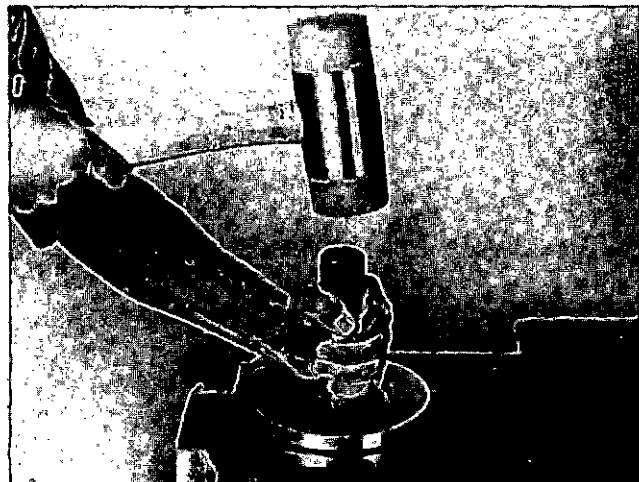

Fig. 14-10 (N114240). Install The Liner.
5. Use the Part No. ST-1229 Liner Driver and a mallet to push the flange of the cylinder liner against the counterbore ledge, Fig. 14-10.